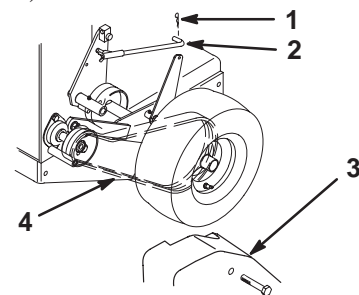

Figure 43
2. Remove hairpin cotter securing brake rod to brake arm to relax belt idler tension (Fig. 43).
3. Remove bottom and loosen top bolts of shield to rotate for belt clearance (Fig. 43).
4. Lift belt past idler and off drive pulley (Fig. 43).
7. Secure shield with previously removed bolts and tighten bolts (Fig. 43).
8. Secure brake rod to brake arm with hairpin cotter (Fig. 43).